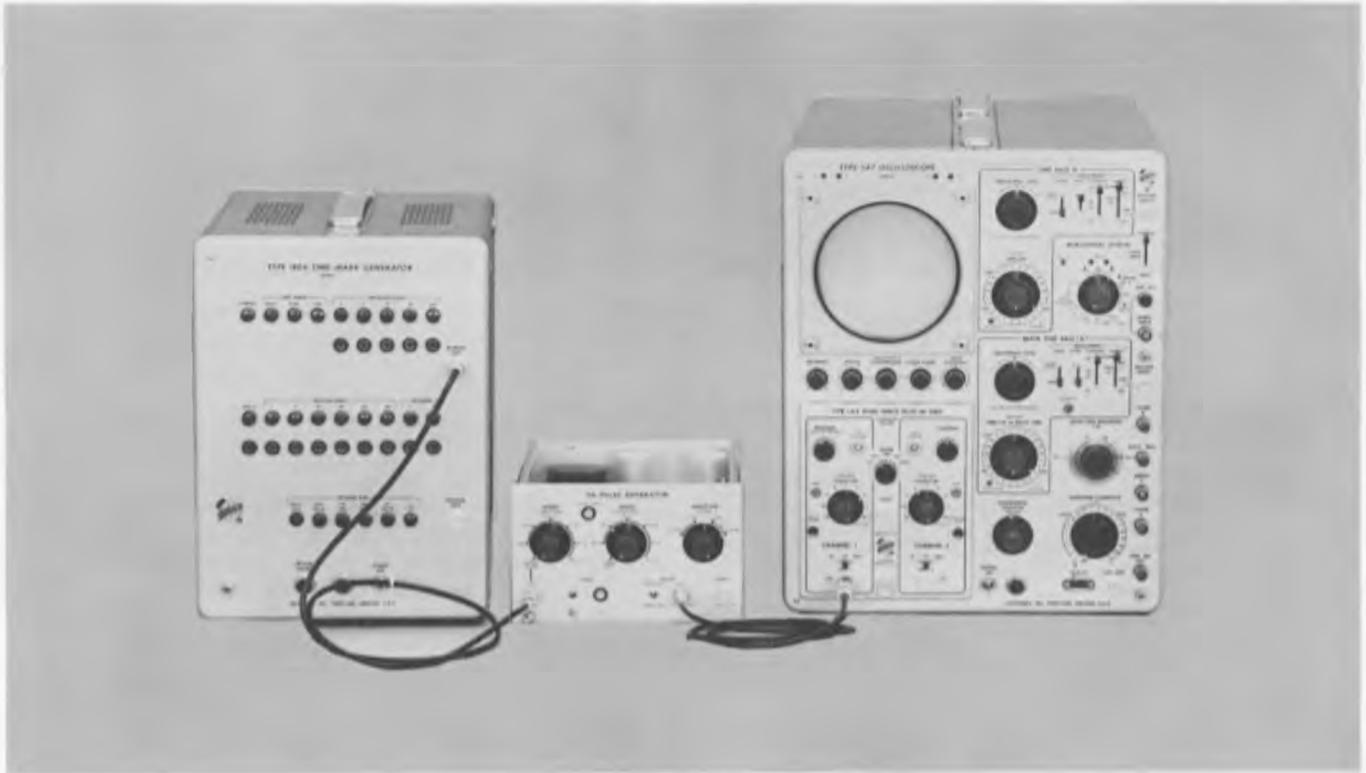

Fig. 4-17. Test setup for checking external triggering.
- Connect a 50Ω coax from the Type 114 TRIGGER OUTPUT connector to the Type 1A1 Channel 1 input (see Fig. 4-17). Set the Type 1A1 MODE switch to CH 1. Set the Type 1A1 Channel 1 VOLTS/CM switch to 1.